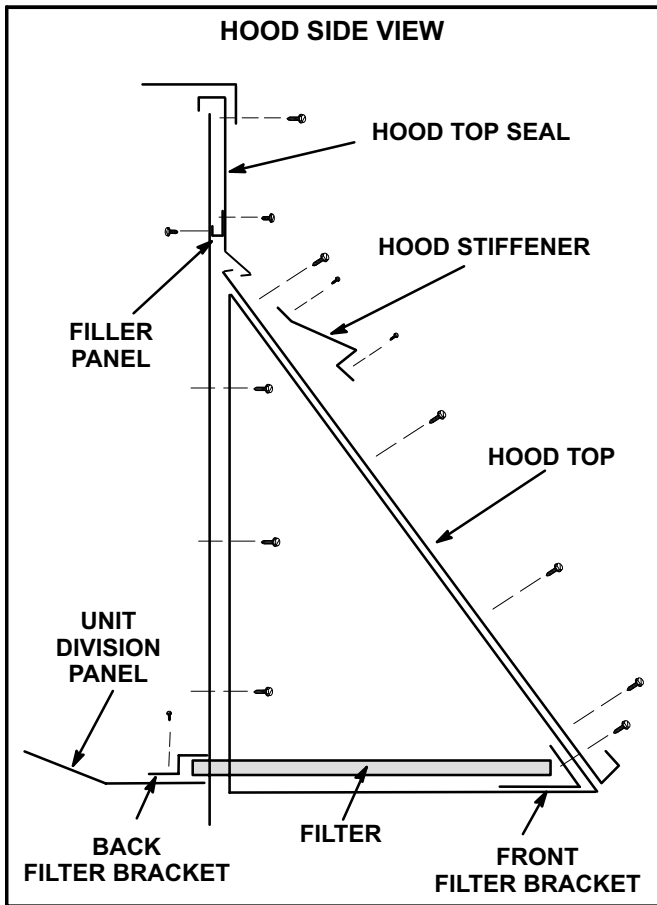

FIGURE 6
- 6- Align back filter bracket with holes in unit division panel. See figure 6. Secure with sheet metal screws.
- 8- Position hood top lip under top seal and slide hood assembly into place. See detail in figure 6. Secure intake hood sides to unit using screws provided.